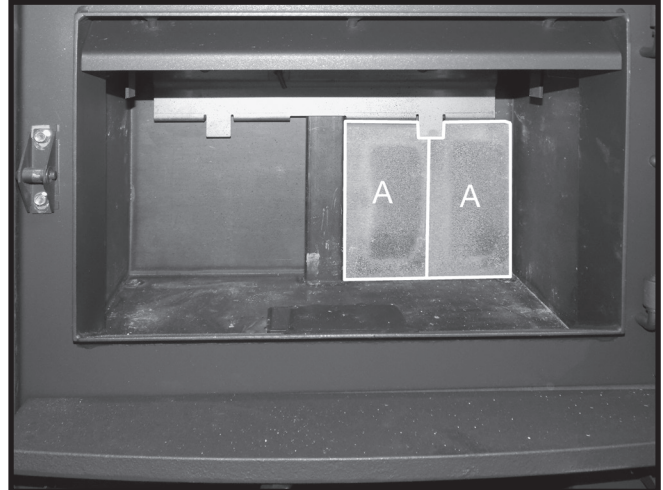

Figure 16: Installing the 2nd rear wall firebricks.
2. Slide a 2nd "A" firebrick underneath the tab on the brick rail (Figure 16).